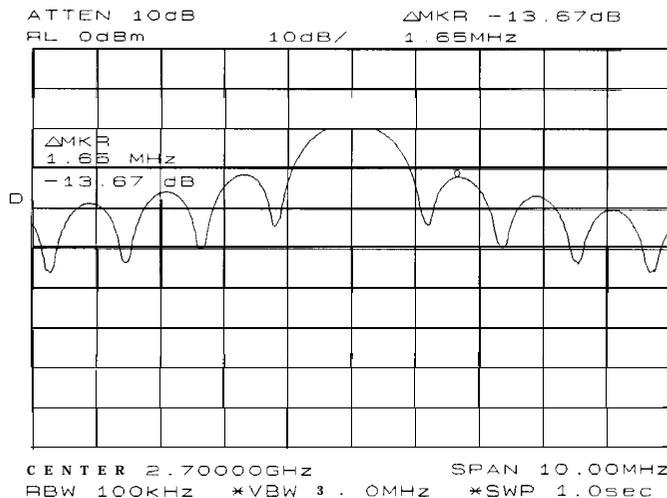

Figure 2-84. Markers Show **Sidelobe** Ratio
2. To measure the side lobe ratio, with the marker still at the center frequency of the main lobe, press [PEAK SEARCH], MARKER DELTA and NEXT PEAK . See Figure 2-84. The difference between the amplitude of the main lobe and the side lobe is the side lobe ratio.